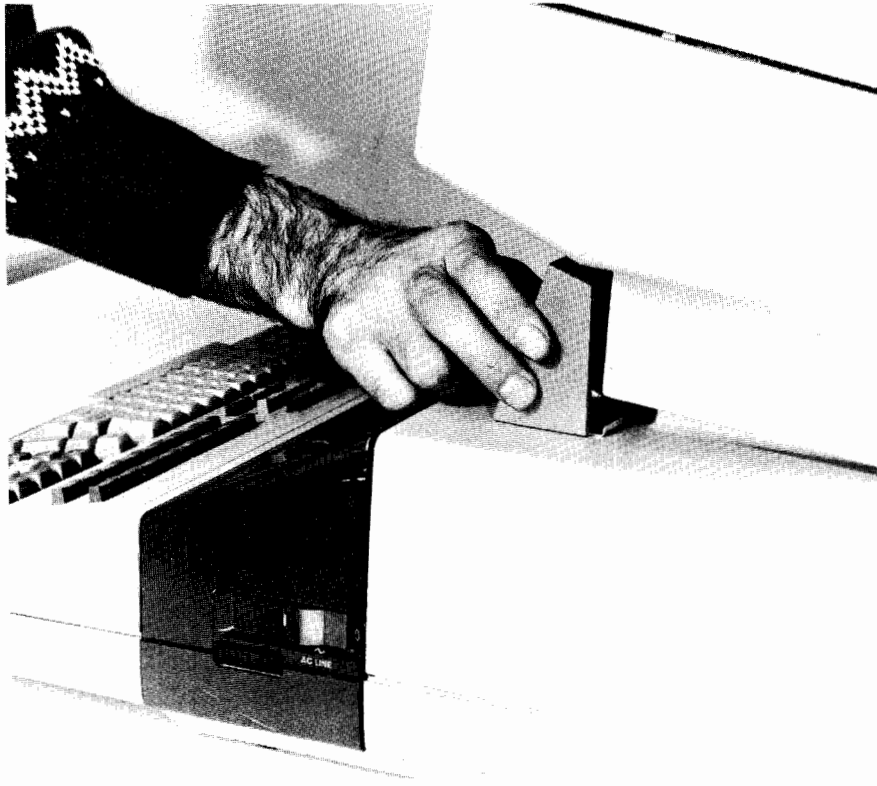

Figure 7-3. Light Pen Holder Installation
- Release the locks on the rear of the support legs, and lift the front of the display. Install the light pen holder on the front of the right support leg (see Figure 7-3). The metal catch on the pen holder is held by the support leg. Lower the front of the display when the pen holder is in place and reseal the leg locks.